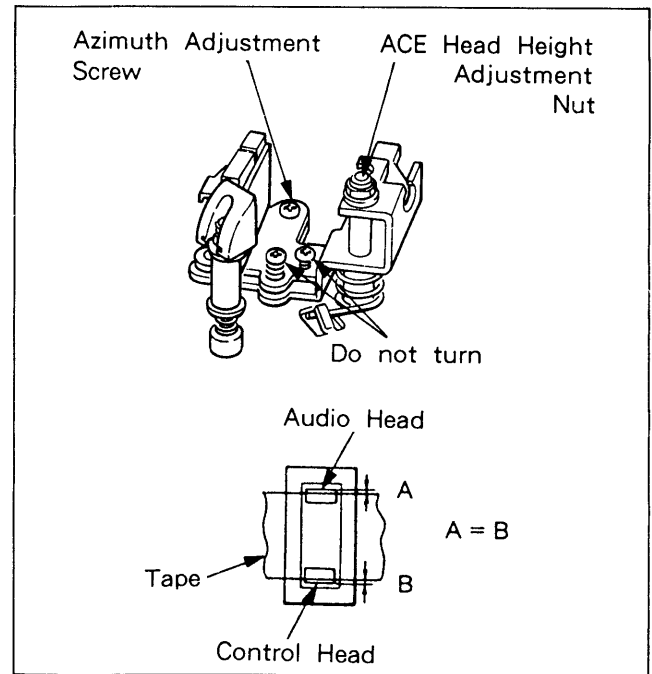

Fig. 6-4-4. (3) Pre-set for Compl Head Bracket
(3) COMPL Head Bracket (ACE Head) (See Fig. 6-4-4.)